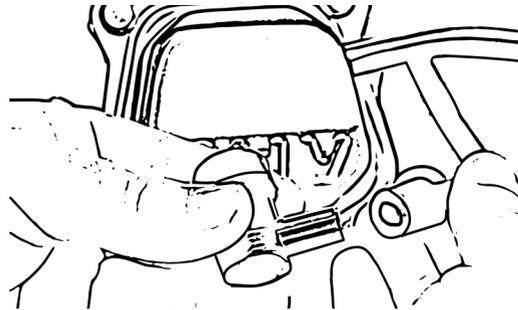

Figure 31
- Push the additional plug connector firmly onto the cable and turn the plug connector clockwise to tighten, Fig. 31.